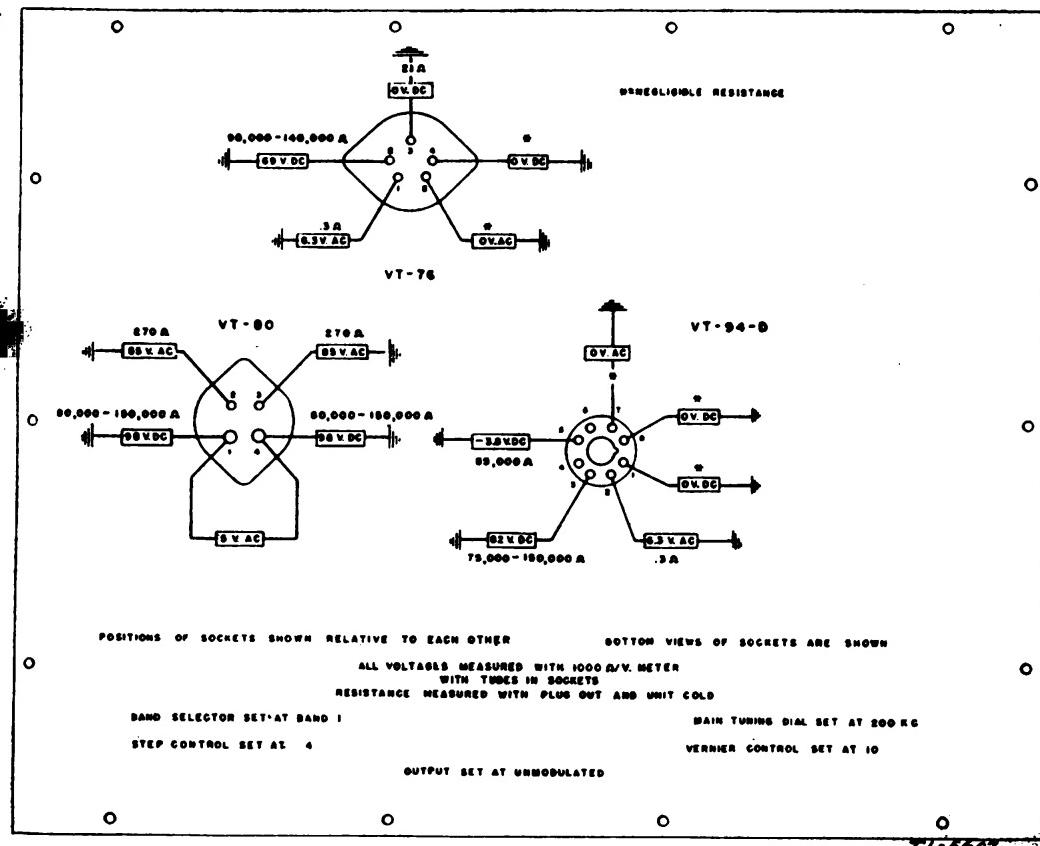

FIGURE 7.—Resistance and voltage measurements from tube sockets to chassis.
**17. Voltage and resistance readings.—See figure 7.**